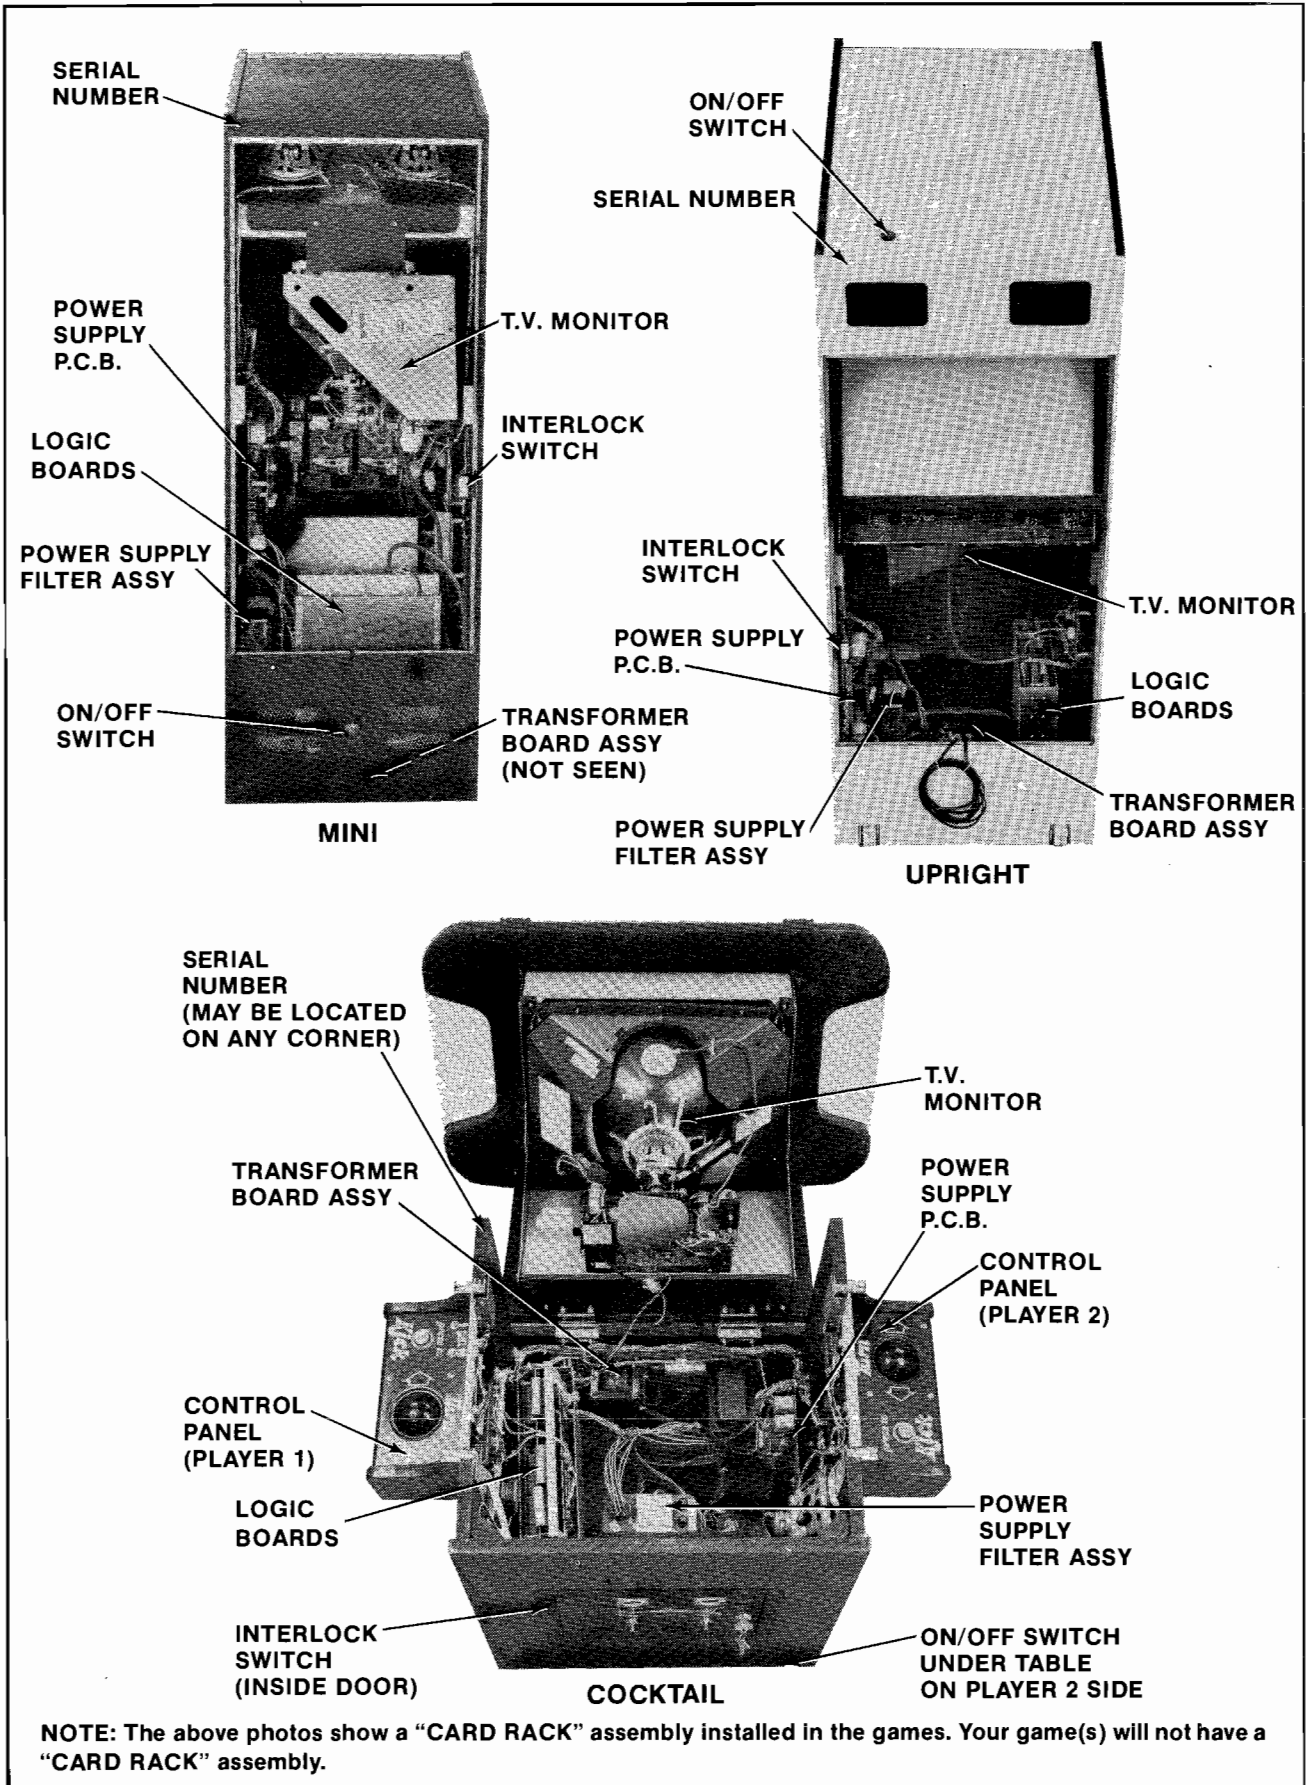

Figure 2 Location of serial number, interlock switch, ON/OFF switch & major sub-assemblies
5. Open the cabinet and inspect the inside of the game for any signs of damage. See Figure 2.
- Make sure all printed circuit boards (P.C.B.'s) are firmly seated in their connectors. See Figure 2. These connectors are also keyed. The P.C.B.'s will only go into them one way without being damaged.
- Note the location of the game's serial number. See Figure 2.
- Check all major subassemblies to be sure they are mounted securely. These are called out in Figure 2 & 3.
3. Interlock and power ON/OFF switches. See Figure 2.
The game ON/OFF switches for all models are located as shown in Figure 2. Turn the game on and allow it to warm up a few minutes.